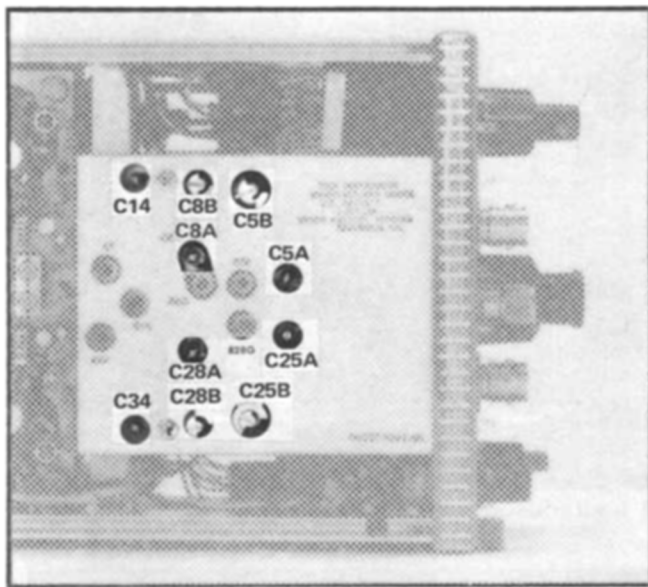
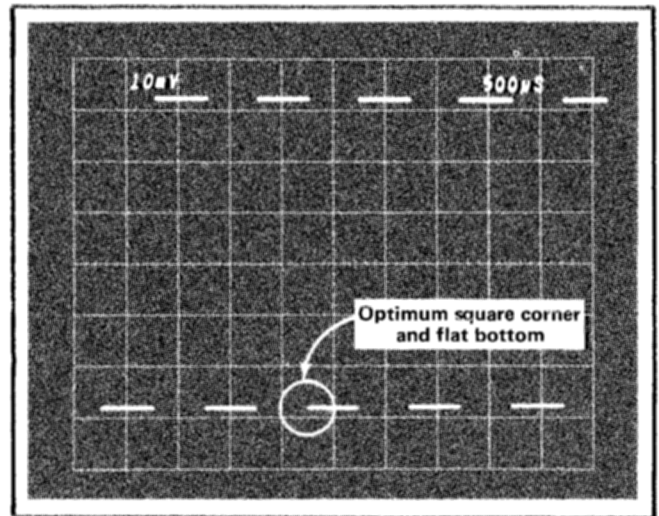

Fig. 5-13. Adjustment locations used in the Attenuator Compensation Adjustment procedure.
Fig. 5-14. Checking for optimum -- INPUT waveform at sweep rate of 0.5 ms/div.
Fig. 5-12B through 5-12E are some waveform examples obtained when the adjustments were misadjusted. Fig. 5-13 shows the location of the adjustments.
h. CHECK—The waveform should have a flat bottom as illustrated in Fig. 5-14. Aberrations should not exceed ±1% or ±0.06 division for a 6 division peak-to-peak display.
i. ADJUST—The -- INPUT shunt capacitance C34 and the attenuator adjustments listed in Table 5-6 for a square lower front corner and flat bottom (see Fig. 5-14). The procedure used here is similar to the procedure used in performing step 18. Fig. 5-13 shows the locations of the adjustments.